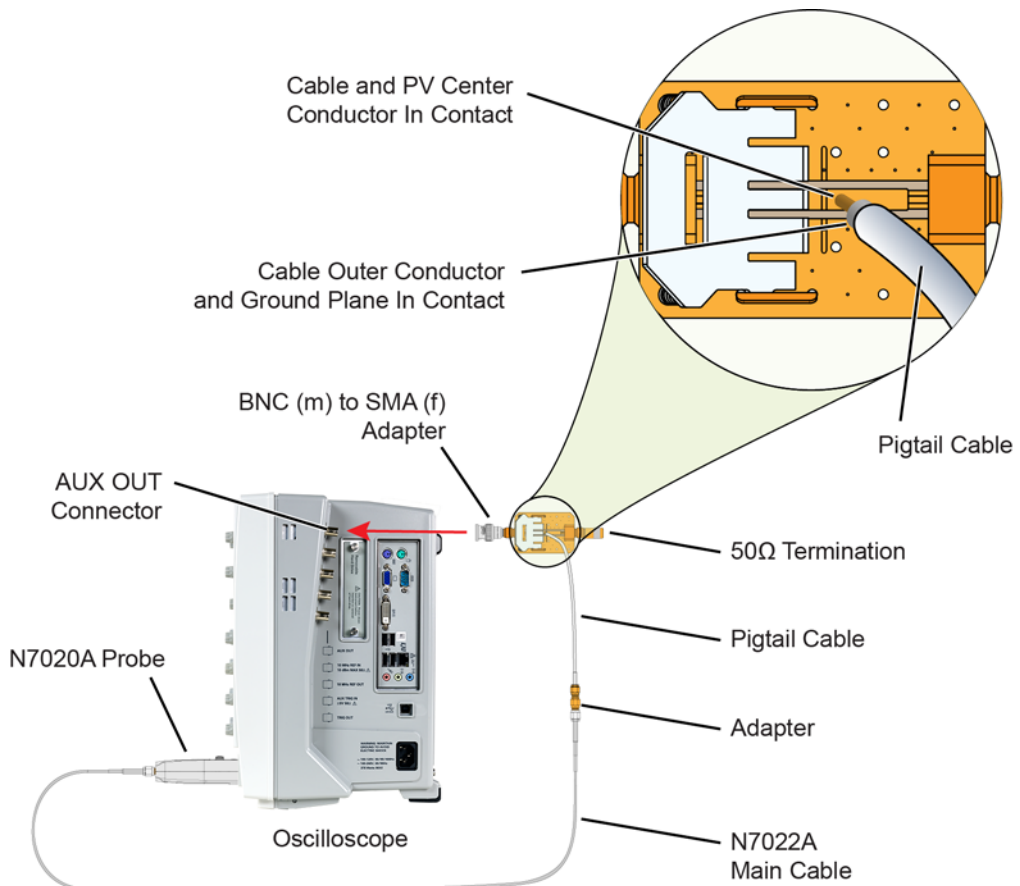

Figure 12 Deskew Setup
- 4** Connect the probe to an oscilloscope channel. The test setup is shown in Figure 12 on page 37,